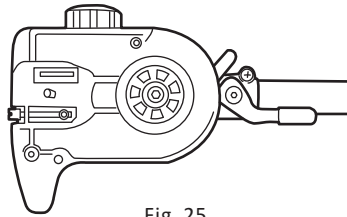

Fig. 25
- 2). Check the oiling port (14) for clogging and clean if necessary to ensure proper lubrication of the guide bar and saw chain during operation. Use a soft wire small enough to insert into the oil discharge hole. (See Fig. 25)